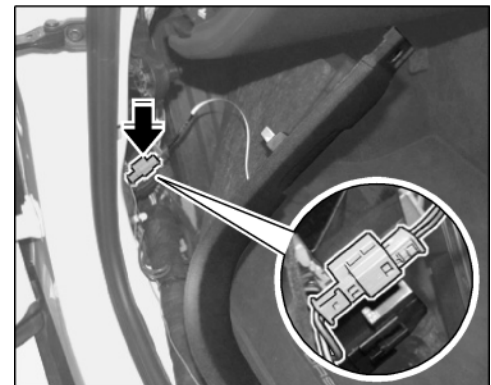

Figure 32
5.9.2 Connect plug connection ⇒ *Figure 32 -arrow-*.